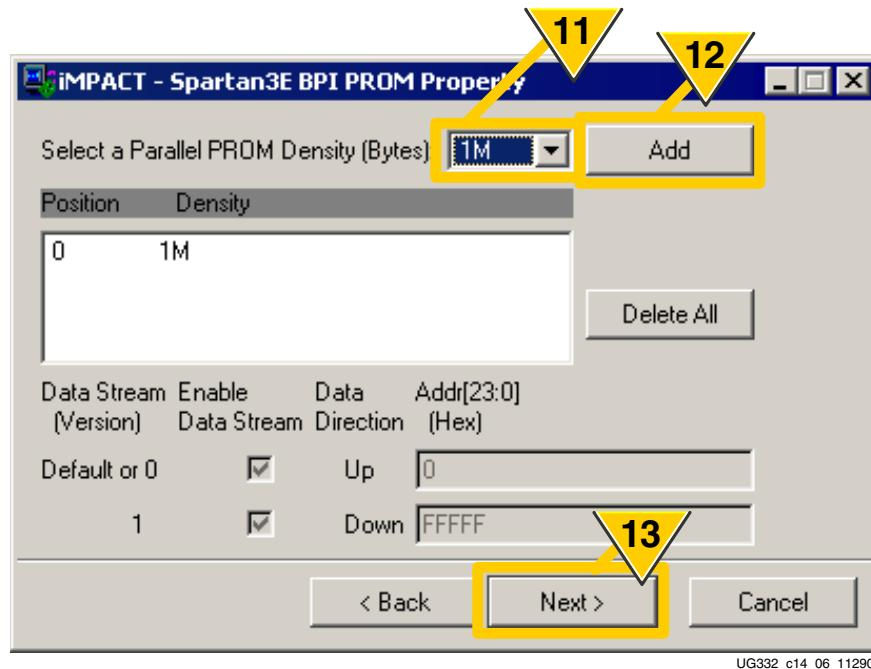

Figure 14-5: Select a PROM Size and Add It to the Design
11. As shown in Figure 14-5, Select a Parallel PROM Density, measured in bytes.